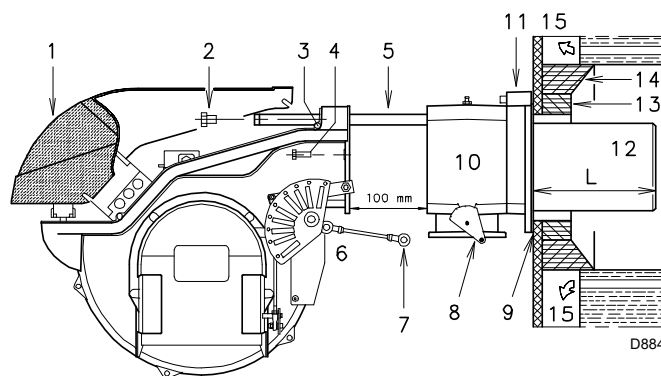

Fig. 11
For boilers with a water-cooled front piece, a refractory lining 13)-14)(Fig. 11) is not necessary, unless expressly requested by the boiler manufacturer.
- Separate the combustion head from the rest of the burner (Fig. 11):
Once this operation (if necessary) has been carried out, fix the flange 11)(Fig. 11 on page 17) to the boiler plate, interposing the insulating gasket 9)(Fig. 11 on page 17) supplied.